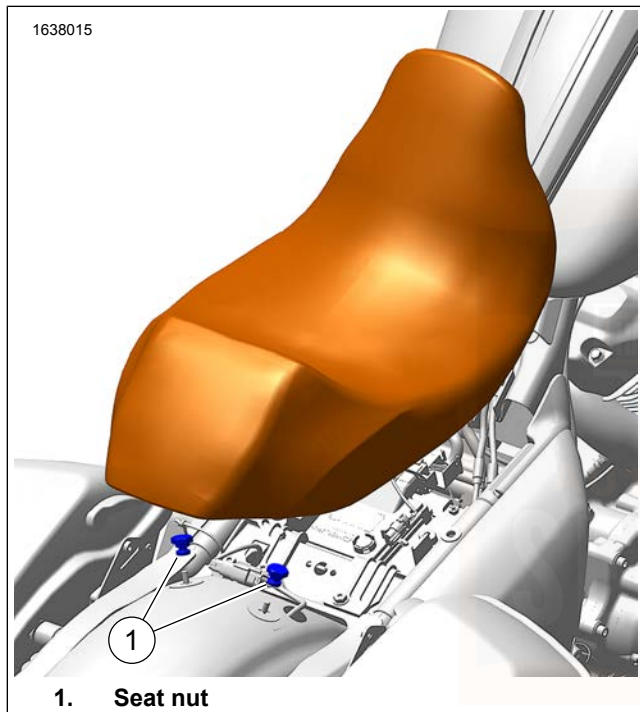
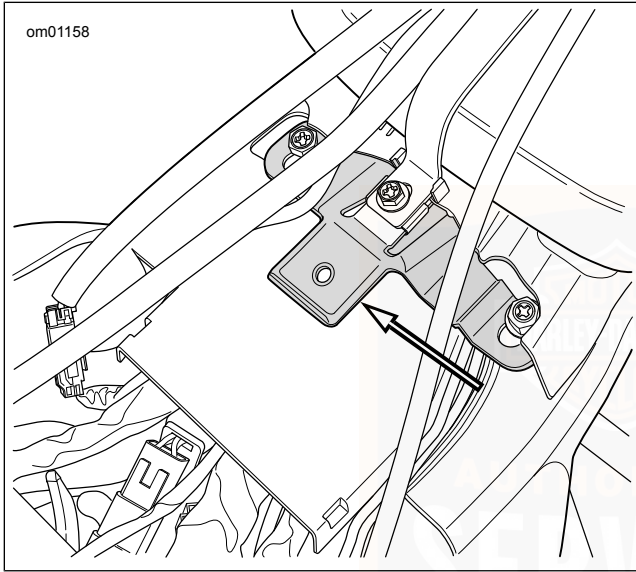
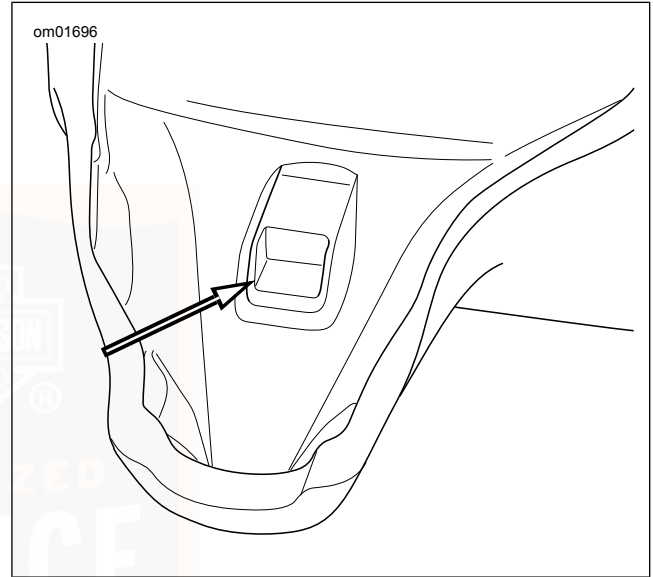

Figure 101. Solo Seat: Hidden Seat Nuts
Figure 103. Seat Tongue
Figure 104. Seat Mounting Slot
1. See Figure 101. Remove seat.
- b. Remove seat nuts (1).
- c. See Figure 103 and Figure 104. Raise rear of seat. Pull seat rearward to disengage the tongue from the slot in the seat.
5. See Figure 103 and Figure 104. Raise rear of seat. Pull seat rearward to disengage the tongue from the slot in the seat.
1. See Figure 101. Install seat.
- a. See Figure 103 and Figure 104. Align seat slot with tongue behind the fuel tank. Push seat forward to engage seat.
- b. Install seat nuts (1). Tighten.
1. See Figure 103 and Figure 104. Align seat slot with tongue behind the fuel tank. Push seat forward to engage seat.